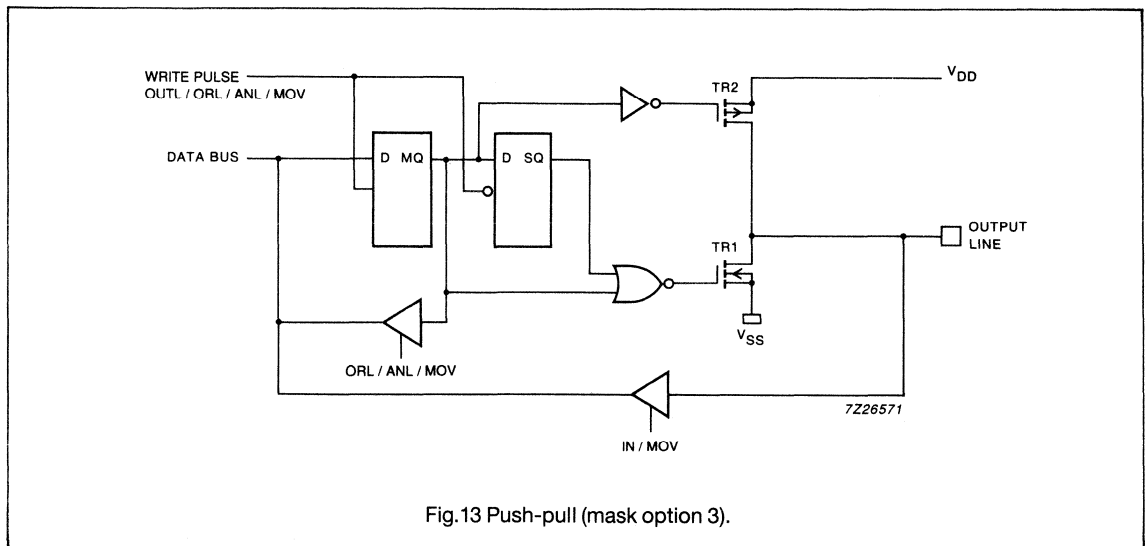

Fig.13 Push-pull (mask option 3).
- Option 3 Push-Pull: outputs can sink or source 2 mA (typ.) at $V_{DD} = 3$ V. Push-pull lines may not be used as inputs (Fig.13).